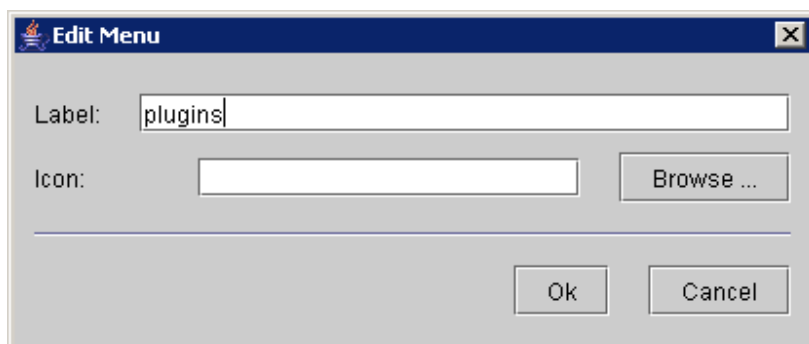

Figure 176 : Edit menu
- Click on the **Edit Menu** button, the following dialog box then appears (Figure 176):